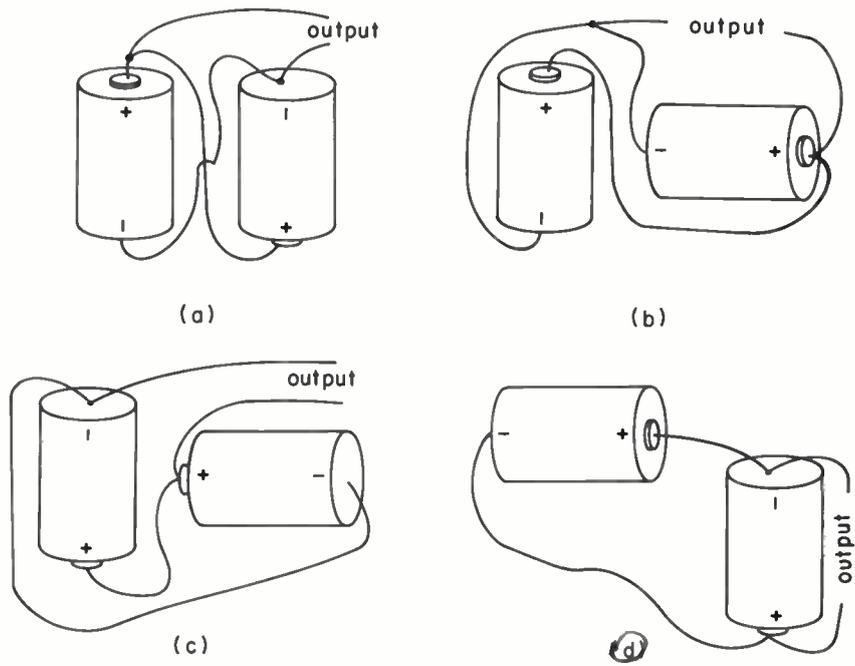

Fig. 9
5. Which of the drawings (one or more) in Fig. 9 is (are) NOT connected in parallel correctly?